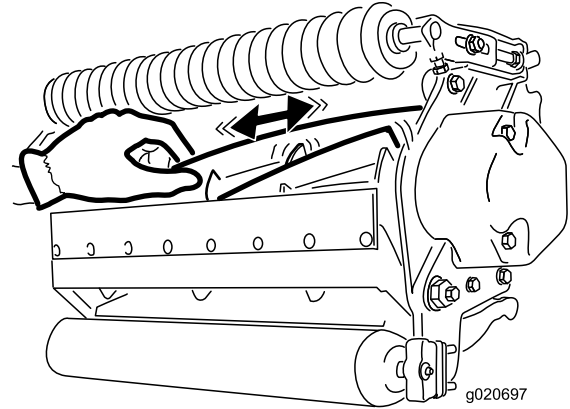

Figure 26
2. Using a rag or thickly padded glove, hold on to the reel blade and try to move the reel assembly side to side (Figure 26).